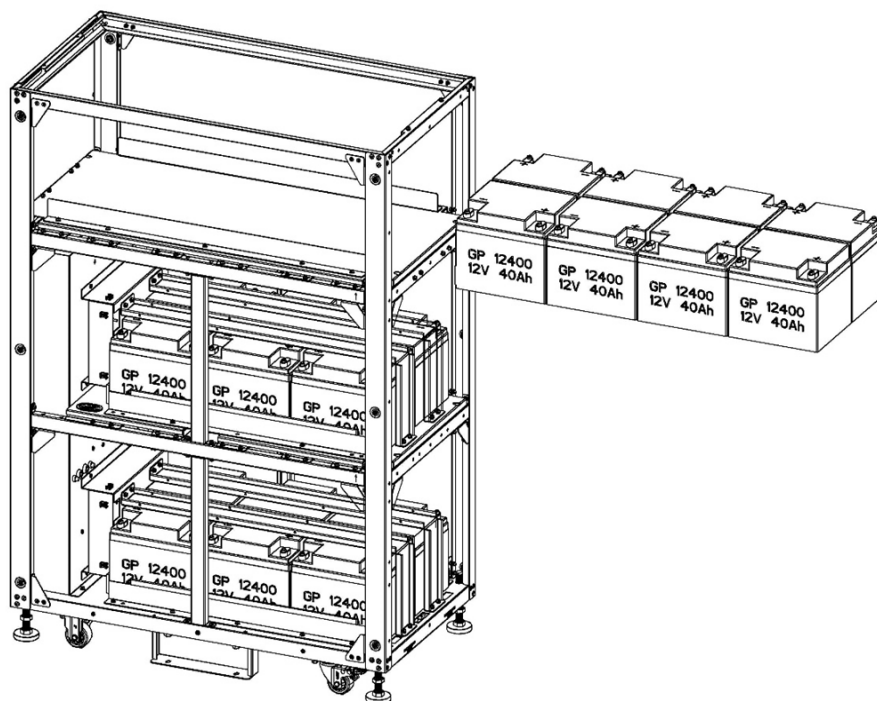

Figure 5-38
7. Reinstall layer 2 battery retention brackets and screws (Figure 5-38).
8. Install 8 battery packs to layer 3 (Figure 5-38).